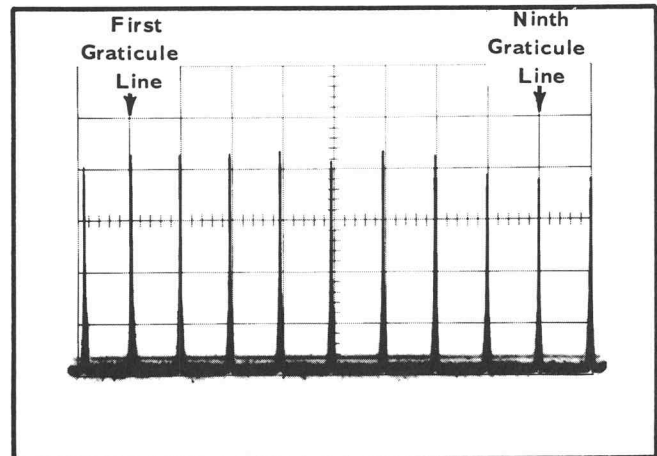

Fig. 5-1. DISP CAL adjustment display (Step 3).
d. Adjust the FINE IF CENTER FREQ control to keep the markers aligned with the graticule lines while setting the DISP CAL adjustment for one marker per centimeter from the first to the ninth graticule lines. Ignore the right and left edges of the graticule—see Fig. 5-1.